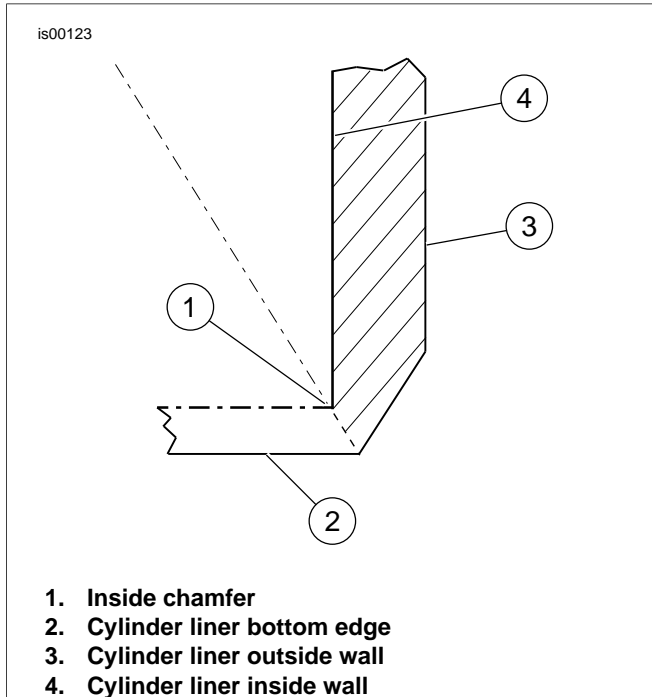

Figure 2. Inside Chamfer and Bottom Edge of Cylinder Liner
8. See Figure 2. After machining and honing, chamfer the bottom inner edge (1) of the cylinder liner. The chamfer provides a beveled surface for easier installation of the cylinder over the piston rings. Break leading edge of liner to a flat surface. The bottom edge of the liner (2) will be somewhat sharp after machining. This sharp edge could easily cause damage during installation of the cylinder.